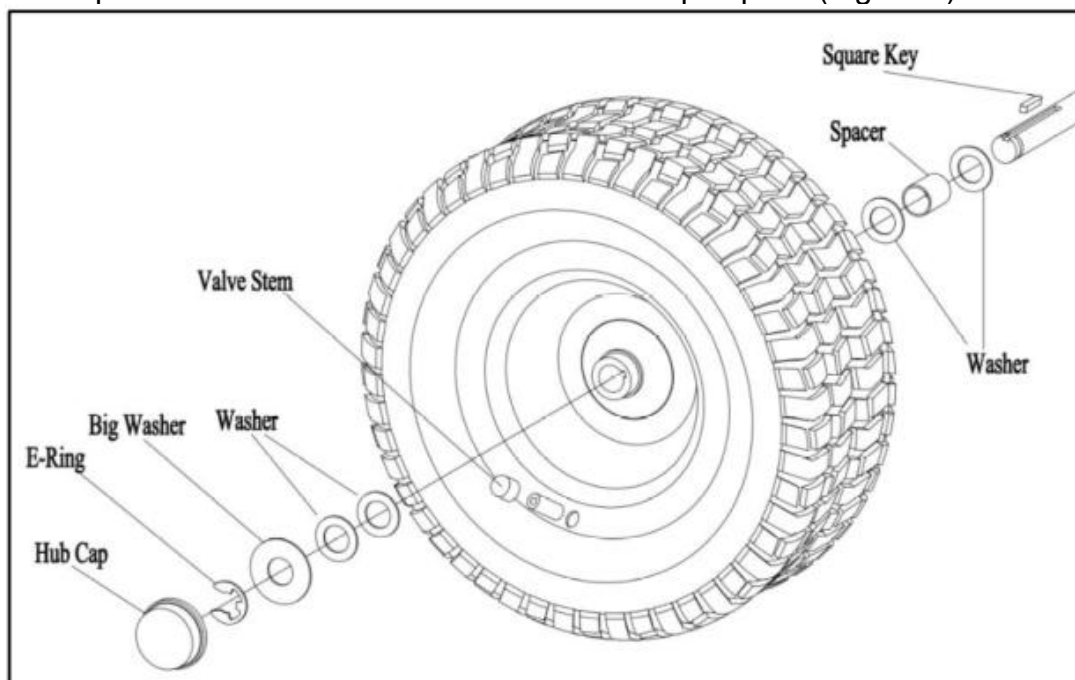

Figure 8
- 4) Fasten the rear wheel with washer and e-ring(Figure 8).
- 5) Install hub cap. Make sure the washer holds the hub cap in place(Figure 8)